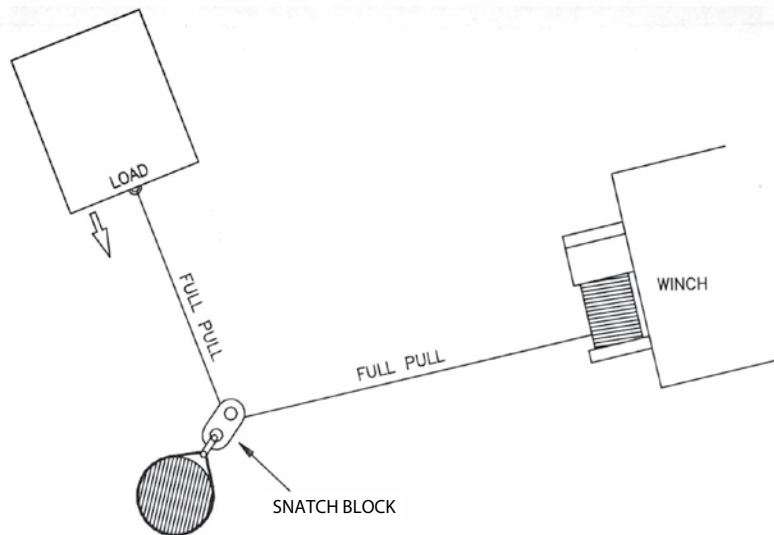

Figure 18
5. Figure 18 illustrate the use of a pulley block to change the direction of the pull. Mechanical advantage can be obtained by attaching a pulley block to the nylon sling with a shackle and running the winch rope to the anchor point.